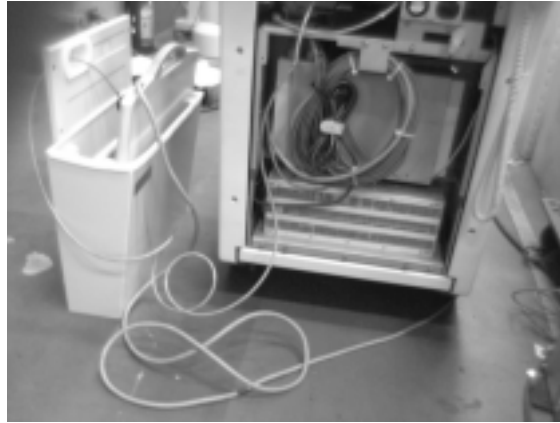

Fig. 3-5 Handling the imaging unit while operation
4. Store the imaging unit in the storage bin as shown in Fig. 3-5 and proceed to procedures 5 and after.